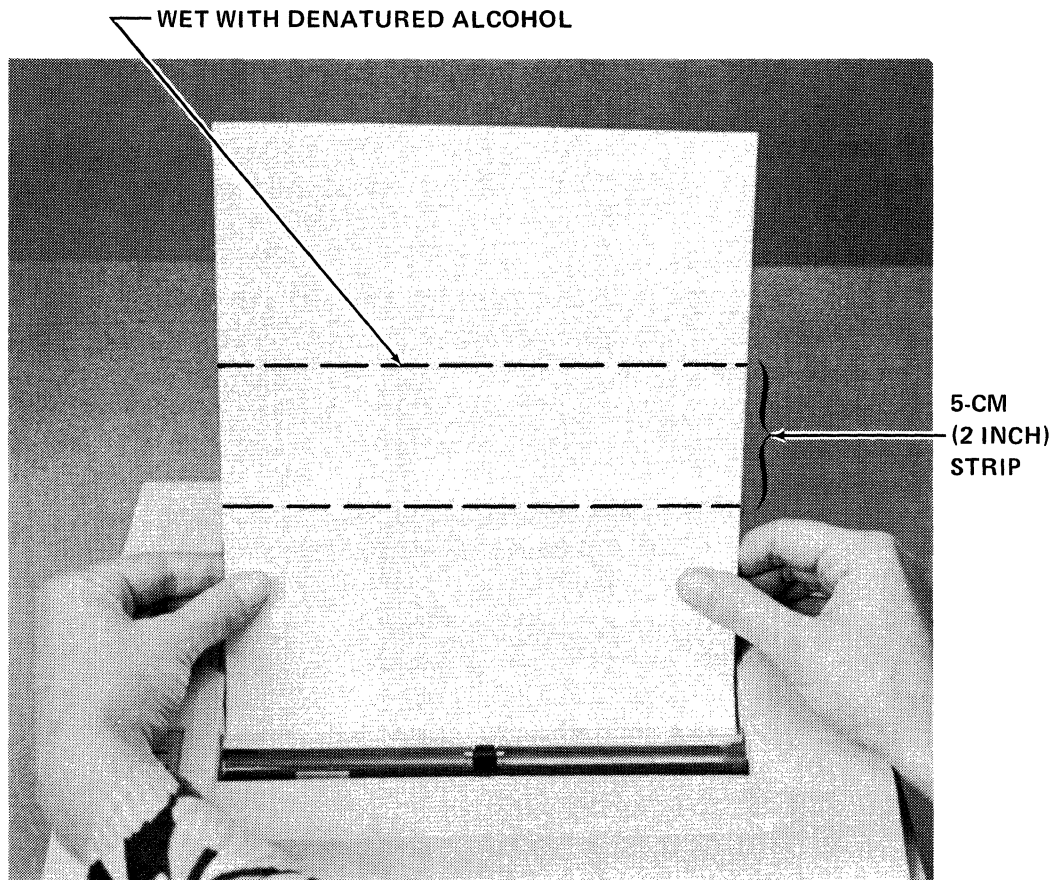

Figure 5-11. Printhead Cleaning
2. Using denatured alcohol, wet a 5 cm (2 inch) wide strip across a sheet of good quality bond paper. Insert the sheet down the paper chute as shown in figure 5-11.